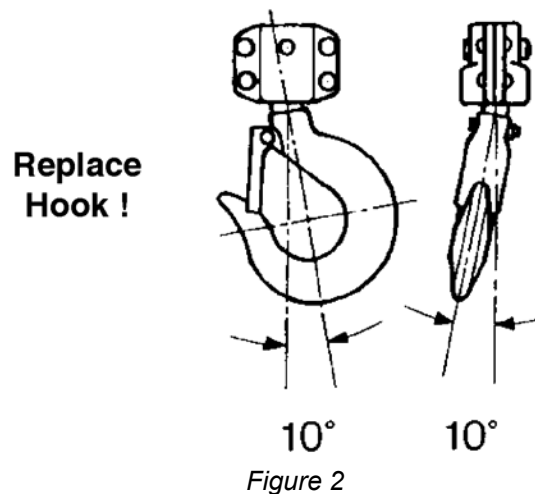

Figure 2
8. If the vertical angle at the neck of the bottom or top hook reaches 10° , replace the hook (see Figure 2).